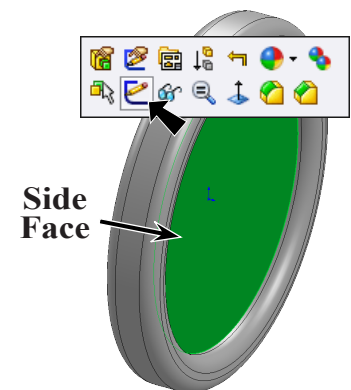

Fig. 9
Step 1. Click the **side face** and click **Sketch**  on the Context toolbar, **Fig. 9**.